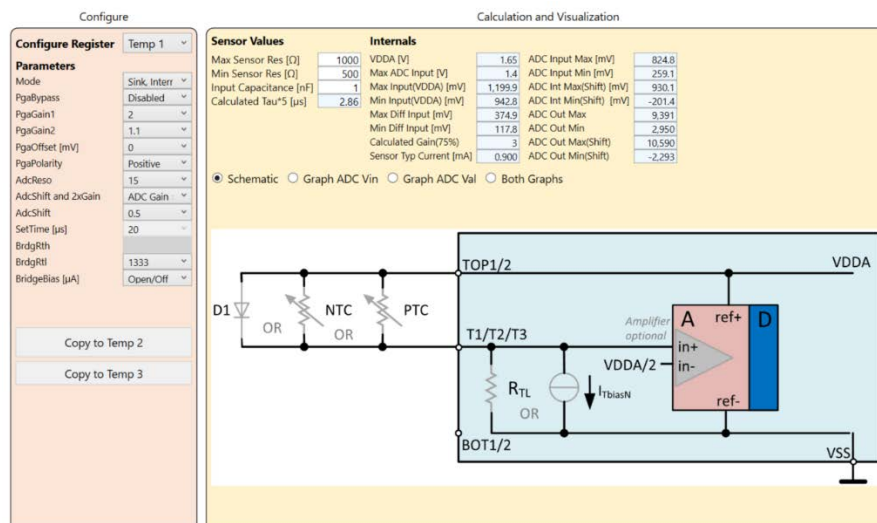

Figure 52. Temp – Mode Sink Internal Bias
- Sink, Internal Bias: The transducer (Diode/NTC/PTC) is supplied by an internal voltage source or by an internal configurable current source tied to the VSS rail (GND) (Figure 52).